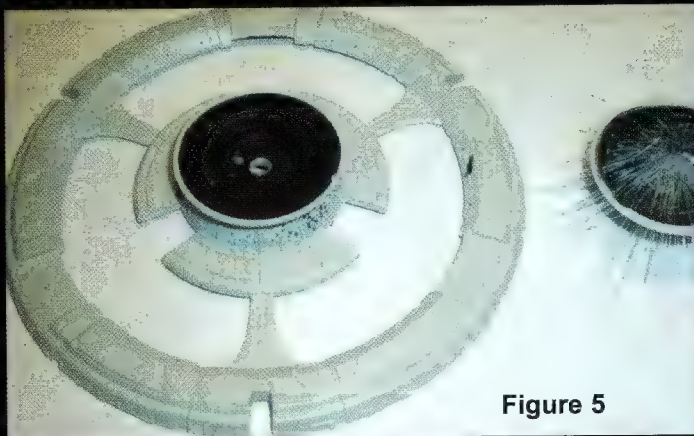

Figure 5
**Figure 5** shows the lower Habitat Ring and Lower Hull sections before assembly. Notice that the fiber optics has been inserted into the lower hull. For this piece, I just inserted the fibers into the hull and trimmed them so an LED shining down from the center would light them up. I never actually joined the fibers to the LED.